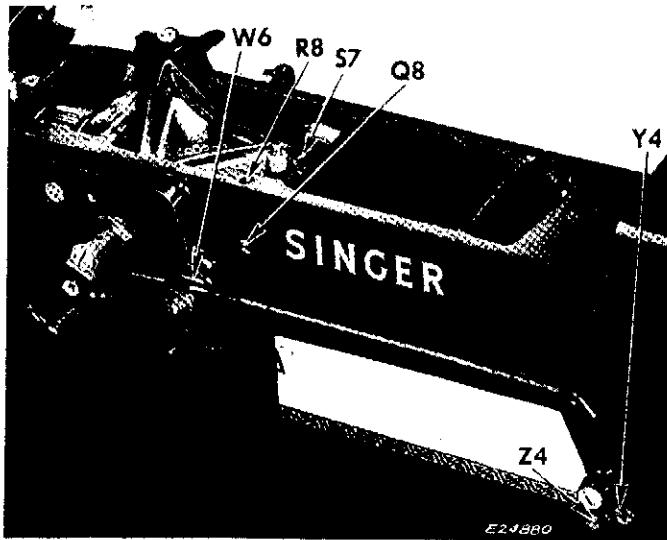

Fig. 74. Showing Pitman Assembly in Position
4. Loosen screws at **R8** and **S7**, **Fig. 74**. With a brass drift pin, tap hinge pin **Q8** free toward FASHION disc side of arm and remove it with adjusting collar.
5. Guide recessed end of hinge pin into frame from FASHION disc side of arm, into beveled side of collar at **S7** and through frame until end of pin **Q8** is flush with arm. Then securely tighten screw at **R8** over pin **Q8**, **Fig. 74**.